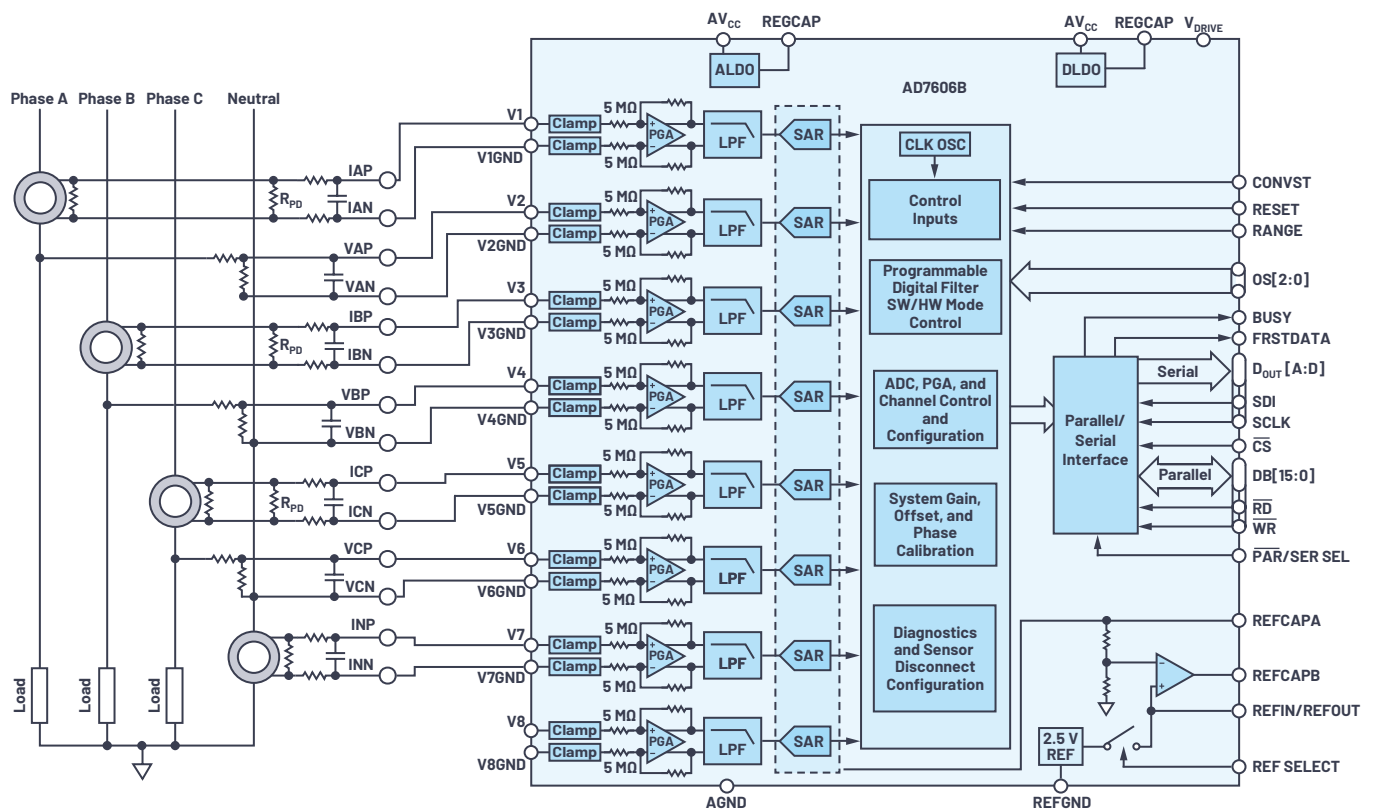

Figure 1. AD7606B in a typical power line monitoring application.
For many applications, monitoring power lines implies the use of current transformers and resistor divider networks in order to sense the three phases and neutral voltages and currents, as shown in Figure 1. The AD7606B, due to its high input impedance, can directly interface with a sensor, easing the data acquisition system design as AD7606B provides all the required building blocks.
In factory trimming, there is tight control over R_{FB} and R_{IN} (5 M Ω typical) on a PGA, such that the AD7606B gain is accurately set. However, if an external resistor is placed in the front end, as shown in Figure 1, the actual gain then differs from the ideal trimmed R_{FB}/R_{IN} .
Traditionally, having a pull-down resistor (R_{PD}) in parallel with the sensor (current transformer shown in Figure 1) allows users to detect when the sensor disconnects by monitoring if an ADC output code lower than 20 LSBs repeats for a number of samples (N).
When using a pair of external resistors, as seen in Figure 1, any mismatch between them will cause an offset. This offset can be measured as the ADC output code when the sensor is shortcut to ground. An offset from -128 LSBs to +127 LSBs can be then added to or subtracted from the conversion result by programming the corresponding channel offset register in order to compensate for that system offset.